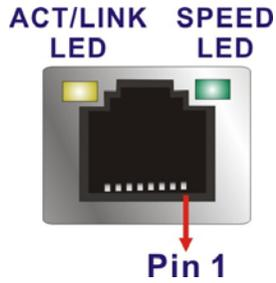

Figure 3-26: LAN Connector
- CN Pinouts:** See **Figure 3-26** and **Table 3-25**